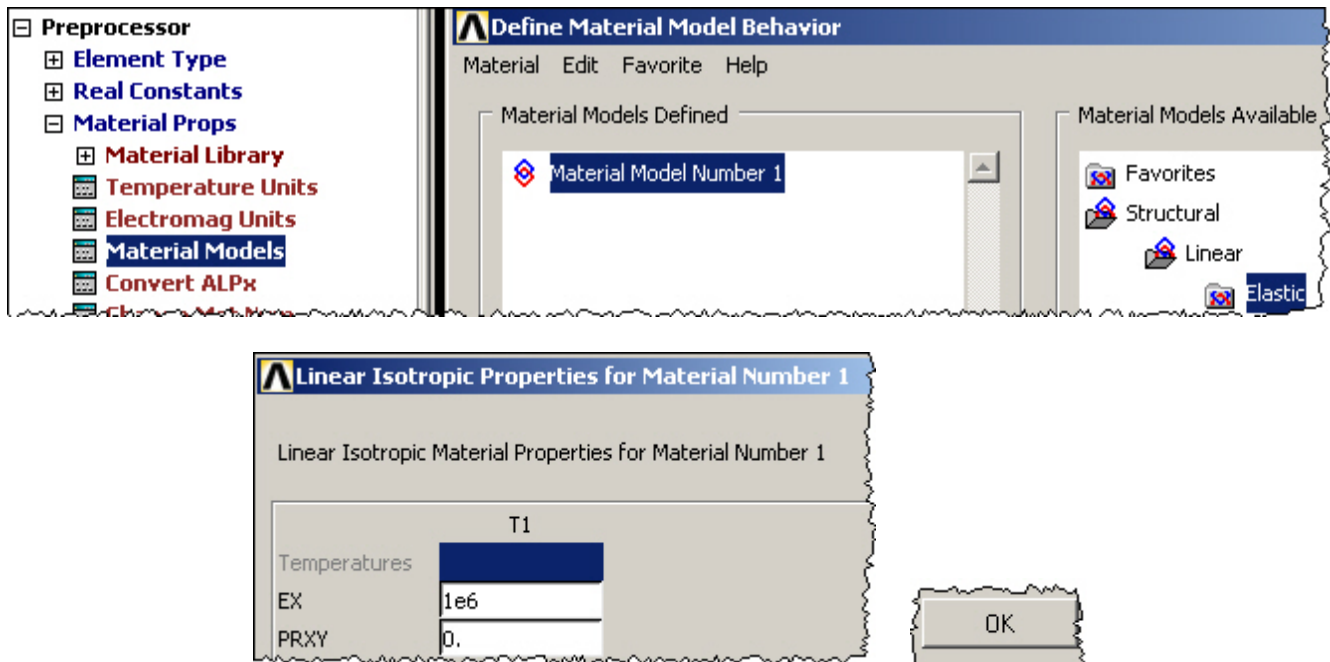

Figure 10 Define the isotropic elastic properties
4. In **Linear Isotropic Properties for Material Number 1** enter 1.e6 (kN/m²) for elastic modulus, **EX**, and 0.0 for Poisson’s ratio (**PRXY**), as in Figure 10, **OK**.
5. **Close** (X) the Define Material Model Behavior window.